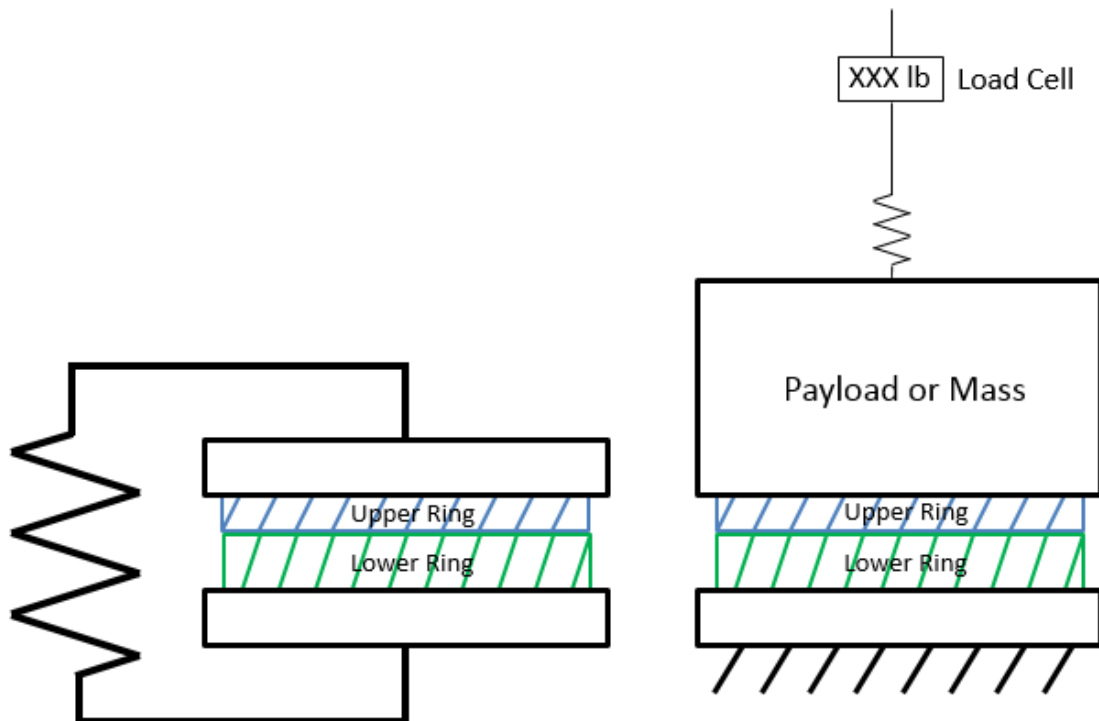

Figure 8-5: Verifying compliance in Lightband compression system. Two common methods shown.
8.1.8	<p>Verify the system being used to compress the Lightband has a total axial (X_{LB}) stiffness less than 2,000 lb/in (the entire loop from the Upper Ring around to the Lower Ring).</p> <ul style="list-style-type: none"> This compliance ensures the Lightband is able to self-align while Stowing. If the system is overly stiff, the Lightband motors will not be able to impart the necessary power required to quickly move the Upper Ring into alignment. This applies to a crane system offloading a mass, a compression clamp fixture, etc. An isolation system (if attached to the Lightband) can be included in this stiffness calculation. See Figure 8-5.